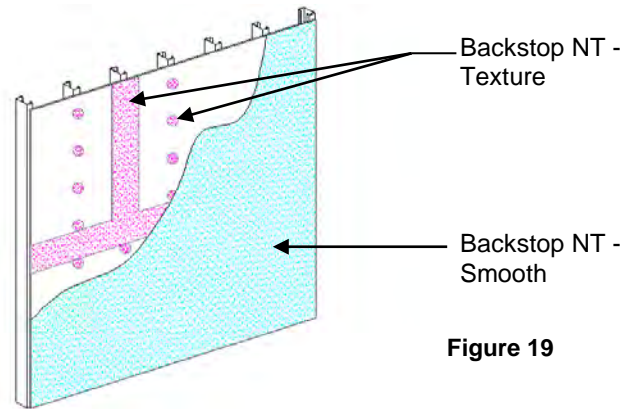

Figure 19
- a. General: Dryvit Backstop NT - Smooth can be applied using a roller or sprayed and back-rolled over the acceptable sheathing substrates. **NOTE: OSB sheathing requires that joints and fasteners be treated with Backstop NT - Texture. A minimum of two (2) coats of Backstop NT - Smooth or Backstop NT – Spray are required for the field of the wall. Backstop NT - Texture is not recommended for application in the field of the board.**
- 2) Backstop NT - Smooth material should be applied in a uniform, continuous film at the recommended coverage rate – Figure 19. **NOTE: Sheathing substrates with a surface texture or high porosity will require additional material.**